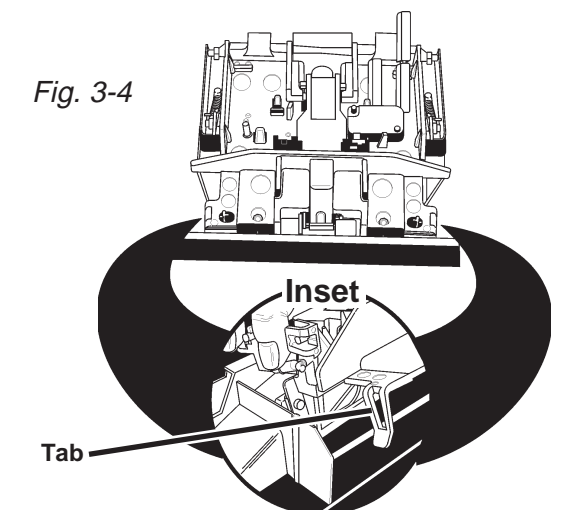

Fig. 3-4
1. Release the tabs securing the door latch assembly to the control panel and lift the assembly out. (Fig. 3-4, Inset)